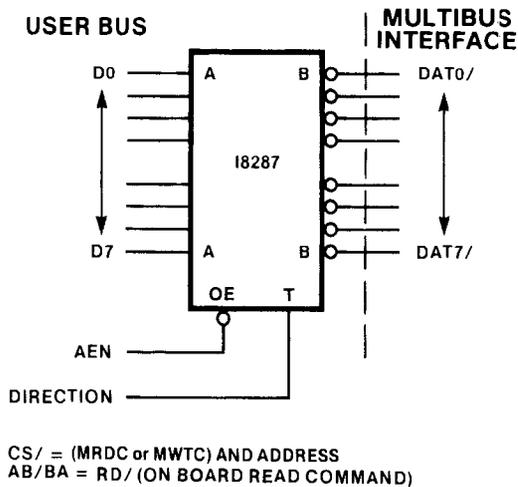

Figure 5-11. 8 Bit Data Drivers
**5.1.3.1 8-BIT DATA SYSTEM.** The 8 bit data system example is shown in Figure 5-11. The chip select is controlled by AEN/ (address enable), and the direction is controlled by the unbuffered bus read command or by the S1 term of an 8085 micro processor.